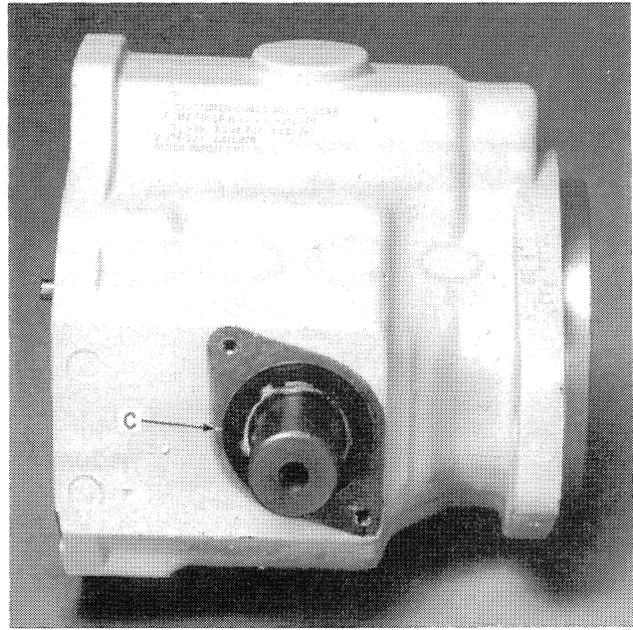
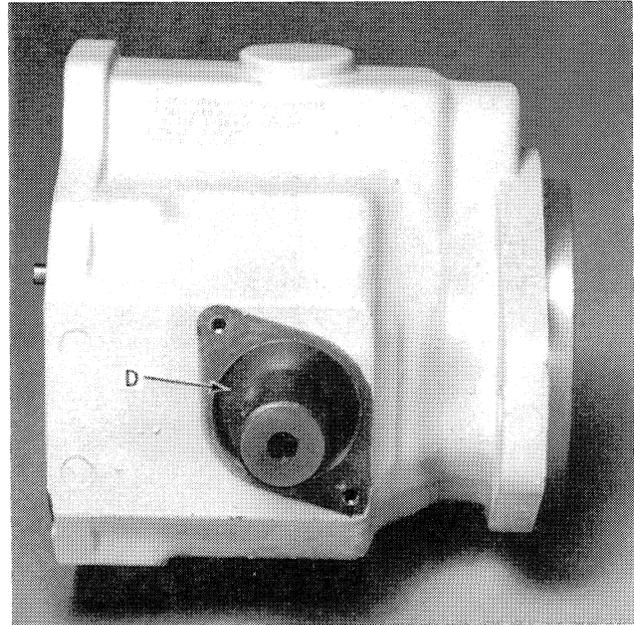

FIGURE 4-20
FIGURE 4-21
d. Remove seal, C, Figure 4-20, and washer, D, Figure 4-21.